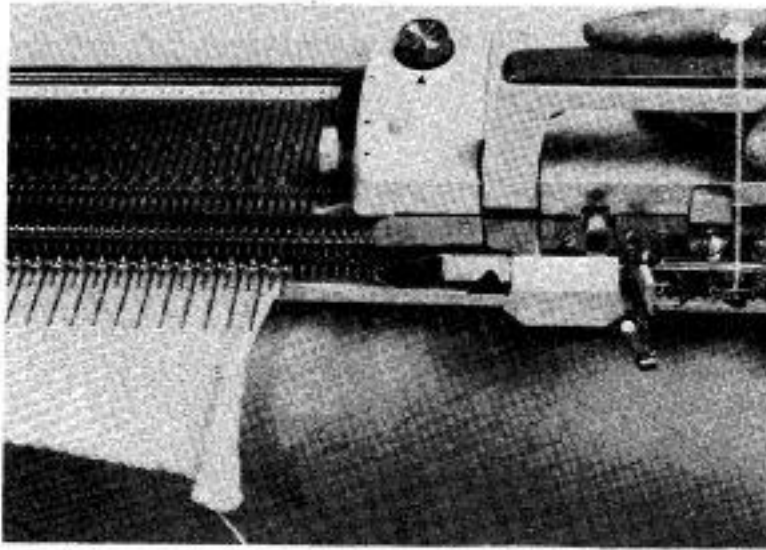

Fig. 97
You will see that every alternate needle will be forwarded into Position (E) leaving the other needles in Position (C) — see Fig. 97.